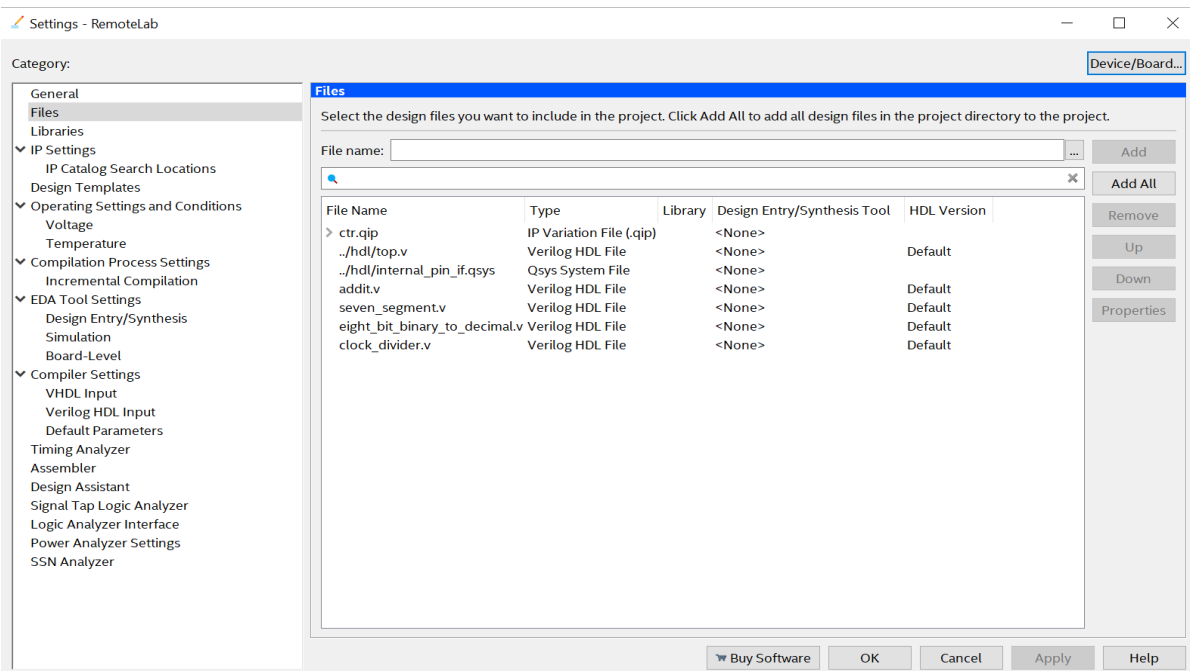

Figure 2: Project Files
- To make sure all the needed files are in your project, go to Project → Add/Remove Files in Project... You should see the files shown in Figure 2 below